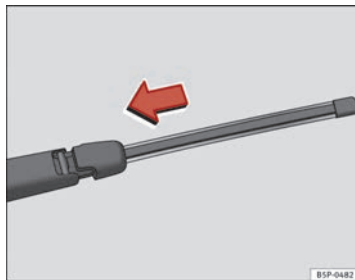

Fig. 188 Fitting the rear window wiper blade ▶
- Place the blade as shown in the ⇒ Fig. 188 and slide the adapter along until it engages.